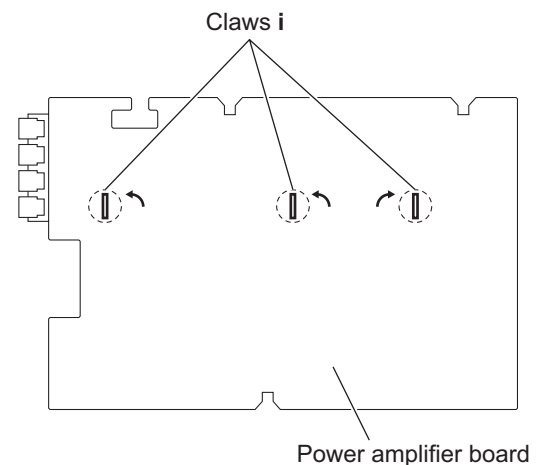

Fig.20
3.1.11 Removing the heat sink (See Figs.20 and 21)
- (1) From the reverse side of the power amplifier board, bend the claws **i** in the direction of the arrow. (See Fig.20)